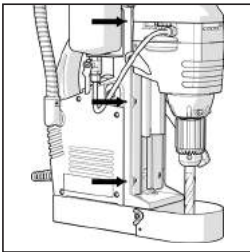

Fig. 15
**Note:** The locking and adjusting screws are located along the Left Hand edge of the machines main slide. (**Fig. 15**)